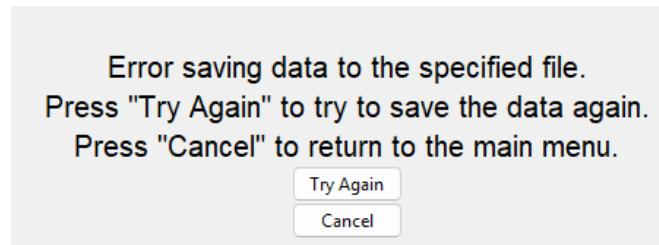

Figure 3.24 - Save File Error Message (TS)
5c: If the file was not saved successfully or “Cancel” was pressed in step 4b, the screen in figure 3.24 will be displayed. Press “Try Again” to return to step 4b or “Cancel” to return to the main menu (TS).